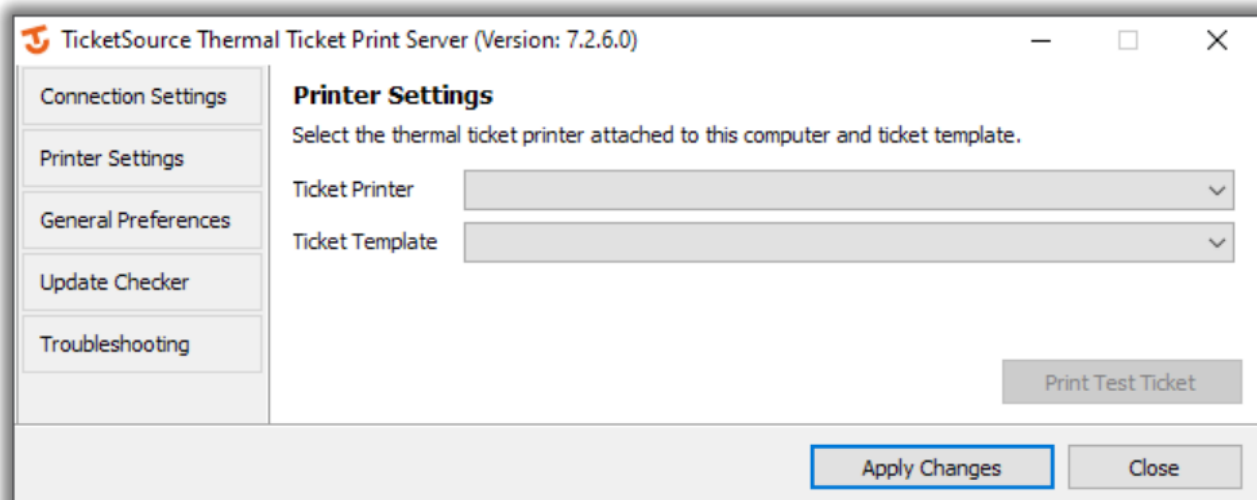

Figure 11: Printer Settings
- click the “Printer Settings” option to specify your printing preferences (figure 11),